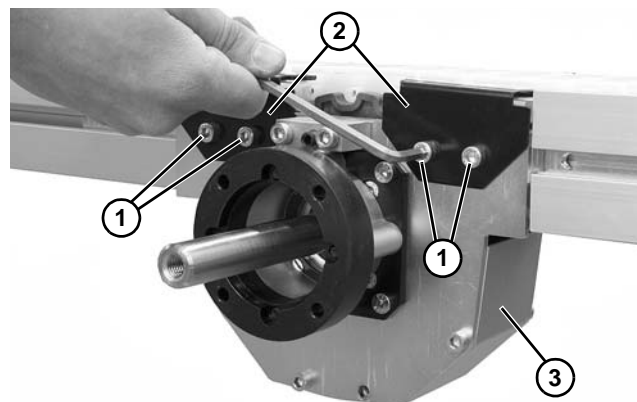

Figure 142
4. Remove four socket head screws (**Figure 142, item 1**) securing belt hold down tabs (**Figure 142, item 2**) to drive assembly (**Figure 142, item 3**).